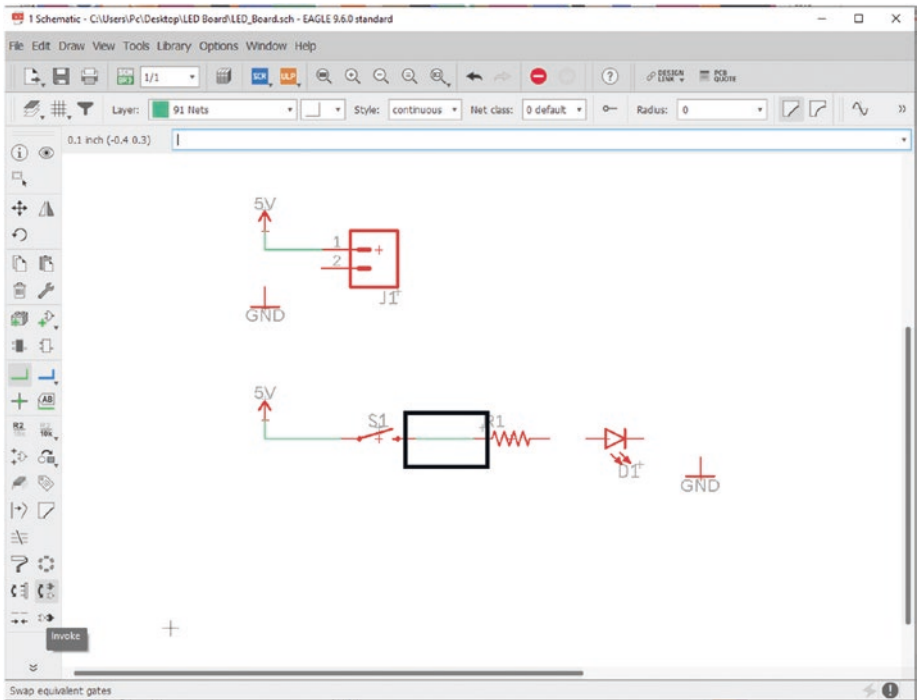

Figure 5-45. Connect the left side of S1 to the right side of R1
33. Connect the right side of the switch symbol to the left side of the resistor. See Figure 5-45.